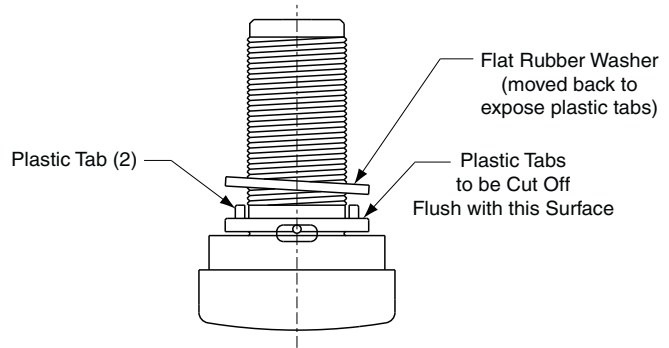

FIGURE 1
2. Cut plastic tabs off rear of soap valve face flush with indicated surface (see Figure 1).